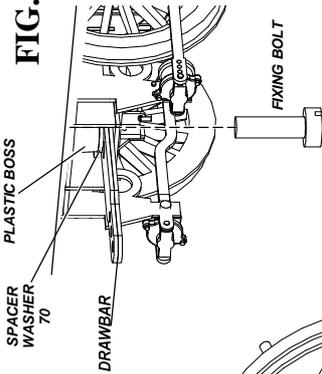

FIG. 4
Position the beams 0.4mm from the edge of the tubes, and solder them in place to make a handed pair. Manoeuvre the assemblies into position, so their 'feet' sit on top of the brass hornblocks - this is illustrated in the cutaway view in Figure 4 - and then slot a length of 0.8mm wire through the holes ('H' in Fig. 1) in the firebox sides, and through the tubes. Check the beams pivot freely - if they don't, look for obstructions: tabs or wires which may be protruding inside the frames; if the beams are catching on the hornblock etches or the sides of the slot in the firebox front spacer. Ensure that the beams sit parallel to the frame sides. It's essential that the beams and hornblocks work correctly together, in a smooth see-saw motion with no tight spots. The pivot wire can be trimmed slightly proud at each side to represent firebox washout plugs.
This method of assembly creates a set of brakegear that is fully removable, as well as totally prototypical in appearance. Do not solder anything until the instructions specifically say so. Figure 4 shows the how the completed brakegear assembly integrates with the chassis.
For the rear pair of hangers, you'll need to make a dog-leg in the crosswire to allow it to clear the worm at the bottom of the gearbox (also Fig. 4). Bend a 40mm length of 0.7mm diameter wire to the shape shown in Figure 1, so it matches the crosswire strengthener (54) and with the bend roughly central along the length of the wire. Solder it to the etch and then keep this assembly for the rear pair of hangers - the others wires use straight lengths.
Refer to Figures 4 and 8. Cut out the length of wire which spans between the brake cylinders and then trim the remaining outer ends of this wire, so they protrude by about 0.5mm beyond the outer face of the brake rods. The brakegear can now be removed by pulling the supporting wire from the front of the chassis, springing the other hangers from their locations and carefully springing out the rear of the rods from the short wires at the brake cylinders. Finally, fit the small, cosmetic end pieces (63 x2) to the rear of the brake cylinder, making sure you don't disturb the position of any of the components.
Refer to Figures 4 and 9. Slide the anchor lug 'R' on the gearbox over the wire that protrudes from the midway spacer, and position the motor/gearbox unit so it sits between the rear axle bushes or hornblocks. Slot the driven axle through the frames and gearbox, slipping on the final drive gear as you go.